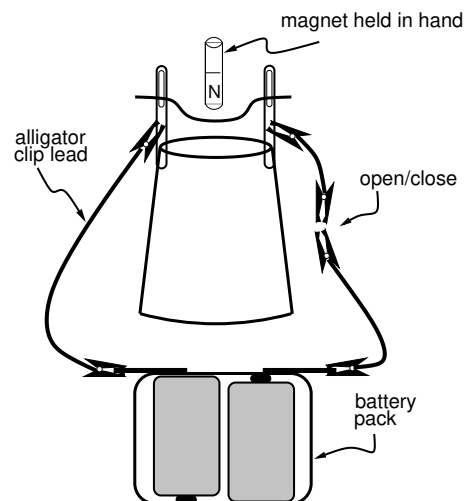

Figure 12.2: Testing deflection of a current-carrying wire.
3. Construct the set-up shown in Figure 12.2 but *do not close the circuit yet*. If
you were to complete the circuit shown in Figure 12.2, would current flow to the right or to the left in the bare metal wire? Note that current flows in the wire from the positive side of the battery towards the negative side. Now, consider *your* set-up. If you were to complete the circuit (*it should still not be closed yet*), what direction would current flow through the wire?
4. First, make a prediction: If you hold your cylindrical bar magnet close to the bare metal wire, with the North pole side down (as shown in Figure 12.2), what direction will the magnetic field point in the region of the bare metal wire? Use the direction of the current, the direction of the magnetic field, and the right hand rule to **predict** the direction of the magnetic force acting on the wire. Explain your reasoning and write down your prediction.
5. Test your prediction. Hold a cylindrical bar magnet, North pole end down, as shown in Figure 12.2. Bring the magnet as close to the bare metal wire as you can while still allowing the metal wire to swing freely. Make sure the hanging bare metal wire is essentially at rest, and then briefly complete the circuit (it may help if one partner holds the magnet while the other completes the circuit). Does the direction of the wire's initial deflection match your prediction from before? (If the wire doesn't move, it is possible that the wire isn't making good electrical contact with the safety pins. Adjust the position of the wire a little bit, while still allowing it to swing freely.)